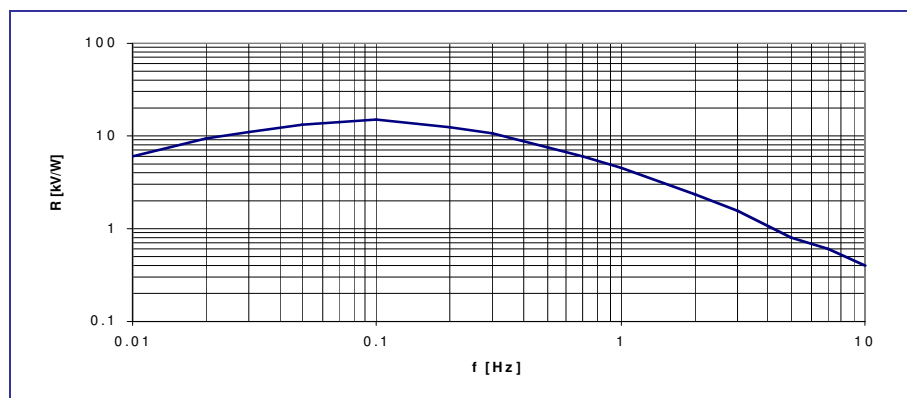

Fig.5: Frequency response
- Responsivity is measured within spectral range 7 - 14 μm as per fig. 5 at 1Hz.